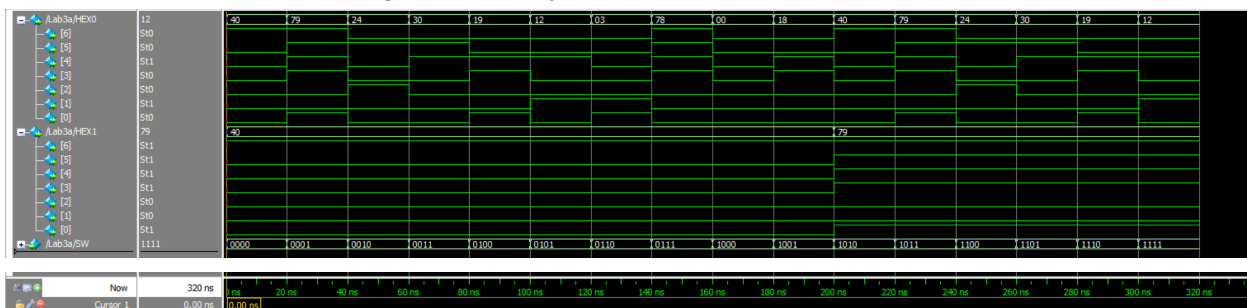

Figure 5: Binary to BCD Waveform
- After debugging and compiling my circuit, I simulated it using Altera-Sim and uploaded it to my DE10-Lite Board to verify its behavior as seen in *Figure 5*.